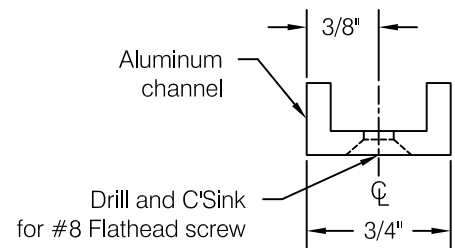
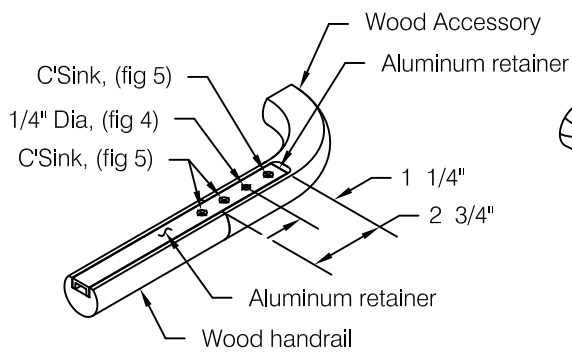
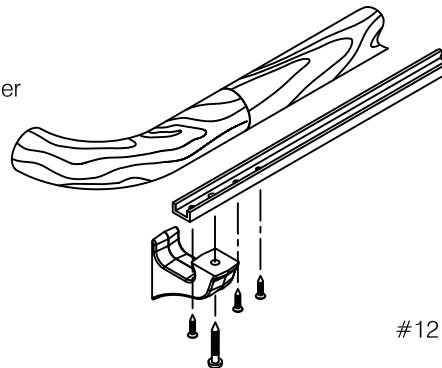
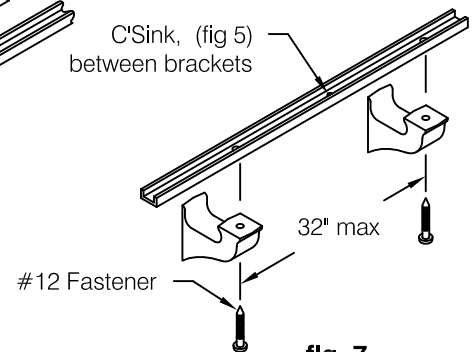

fig 5
fig 6a
fig 6b
fig 7
- Not to exceed 32" on center, see **fig 7**
- Under accessories as described in **step 2** and **fig 6a** and **fig 6b**
- Step 5:** Using a 3/16" diameter bit, drill and countersink aluminum channel for #8 flathead fasteners on center between bracket mounting holes, see **fig 7**. Drill and countersink two additional holes at each accessory and a third hole between 3/4" and 1 1/4" in from the end of the adjoining handrail, see **fig 6a** and **fig 6b**. Drill and countersink along the centerline of the channel as shown in **fig 5**.
- Step 8:** Using a 5/32" bit, drill pilot holes in wall return accessories for #12 fastener at bracket mounting location. Using a 1/8" drill bit, drill pilot holes for the two #8 flathead fasteners. Use the drilled aluminum channel as a hole location guide making sure to align the wood return with its end perpendicular to the channel before drilling, see **fig 6a**. Attach wall returns using the #8 flathead screws provided.